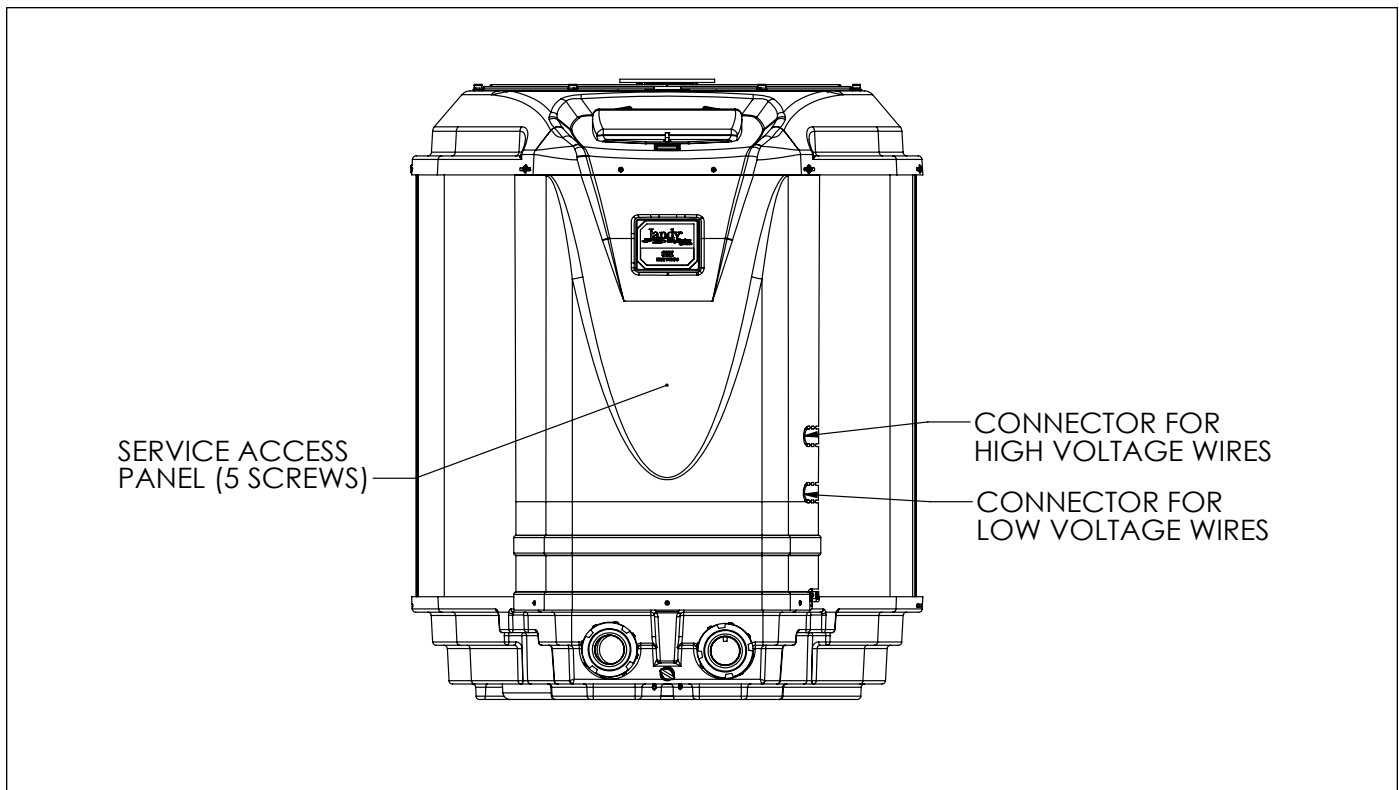

Figure 10. Jandy Pro Series JE Heat Pump Front View
2. Remove the five (5) screws that attach the service/access panel to the heat pump unit (see Figure 10).
4. Electrical supply lines must be run through watertight conduit. Route the wires and conduit through the knock-out designated for high voltage on the right side of the heat pump. Connect to the bottom of the sheet metal junction box. See Figure 10 for knock-out location.
panel to the heat pump unit and the cover to the junction box (see Figure 10).
3. Run the wires from the pool/spa control system into the conduit connection labeled “Low Voltage Connection”, located on the lower right hand side of the heat pump (see Figure 10).
2. Remove the screws that attach the service/access panel to the heat pump unit and the cover to the junction box (See Figure 10).
3. Run the wires from the pool/spa control system into the conduit connection labeled “low voltage connection”, located on the lower right hand side of the heat pump (See Figure 10).
2. Remove the five (5) screws that attach the front panel to the heat pump and remove the cover to the junction box. See Figure 10.
3. Run four (4) 22 AWG solid copper wires into the conduit labeled “Low Voltage Connection” located on the lower right hand side of the heat pump. See Figure 10. The wires may be up to 300 feet (91.4 m) in length.